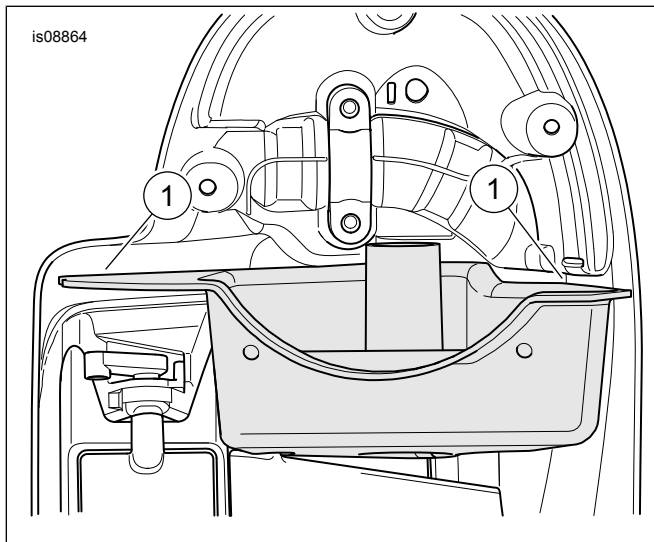

Figure 5. Gasket Mating Surface of Lower Fairing
5. See Figure 5. Prepare speaker enclosure and bottom tray for gasket seal installation. Clean with a mixture of 50-70 percent isopropyl alcohol and 50-30 percent distilled water.